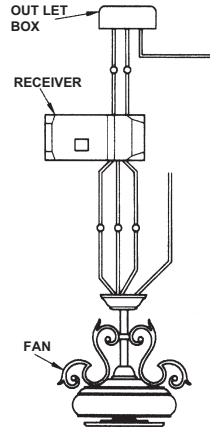

Fig.15
Note: If your ceiling fan features an UP Light: Connect the ORANGE wire from the fan to the ORANGE wire marked "For Up Light" from the Receiver. Otherwise disregard this step and proceed to secure all wire connections with the plastic wire nuts provided. (Fig. 15 & 16)
Step 3. Receiver to House Supply Wires Electrical Connections: Connect the WHITE wire (Neutral) from the outlet box to the WHITE wire marked "AC in N" from the receiver. Connect the BLACK wire (Hot) from the outlet box to the BLACK wire marked "AC in L" from the receiver. Secure all wire connections with the plastic wire nuts provided. (Fig. 15 & 16)
Step 4. If your outlet box has a GROUND wire (Green or Bare Copper) connect this wire to the Hanger Ball and Hanger Bracket Ground wires. If your outlet box does not have a Ground Wire, then connect the Hanger Ball and Hanger Bracket Ground Wires together. Secure wire connection with the plastic wire nut provided. (Fig. 15 & 16)